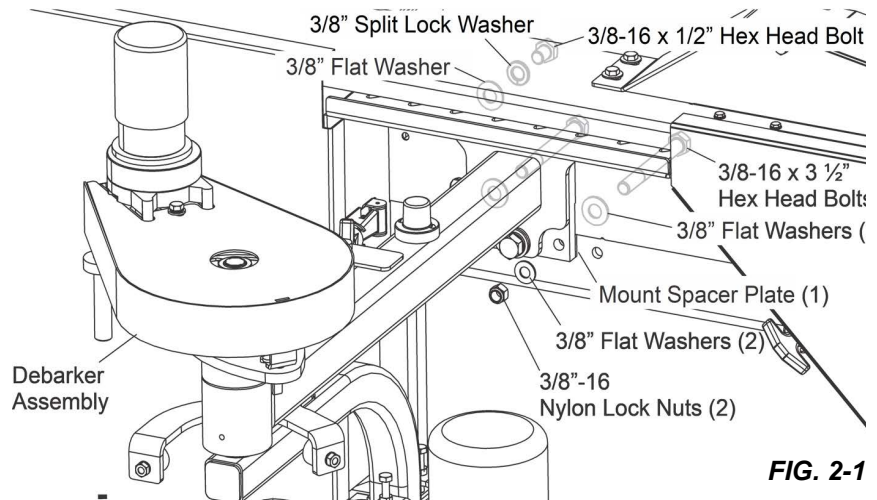

FIG. 2-1
7. Assemble the debarker assembly to the sawmill saw head. **See Fig. 2-1.**